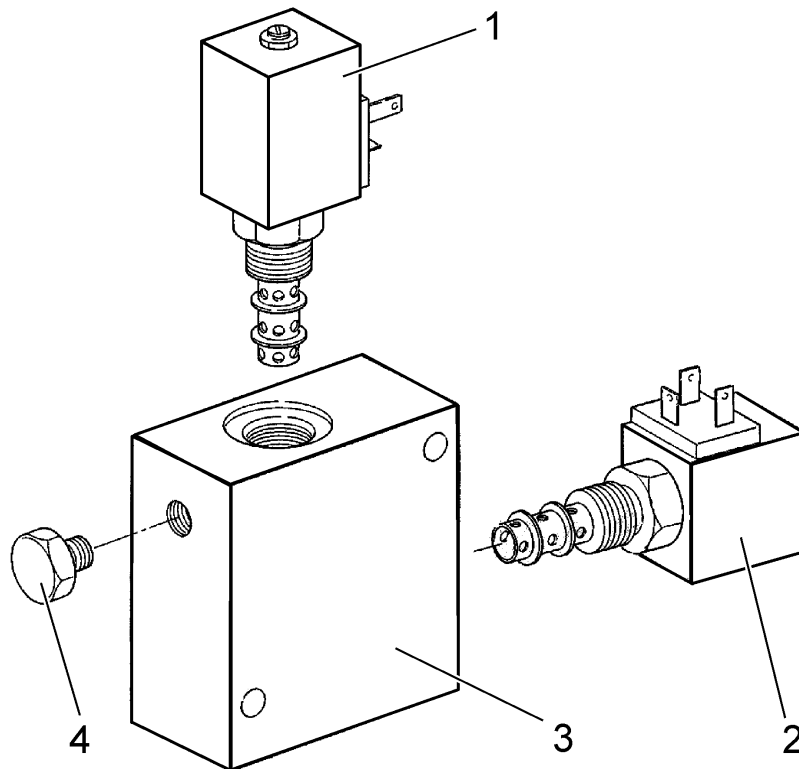

Fig. 7C.91. Exploded View of Gear Shifting Valve
33. DISASSEMBLY (Refer to Fig. 7C.85)